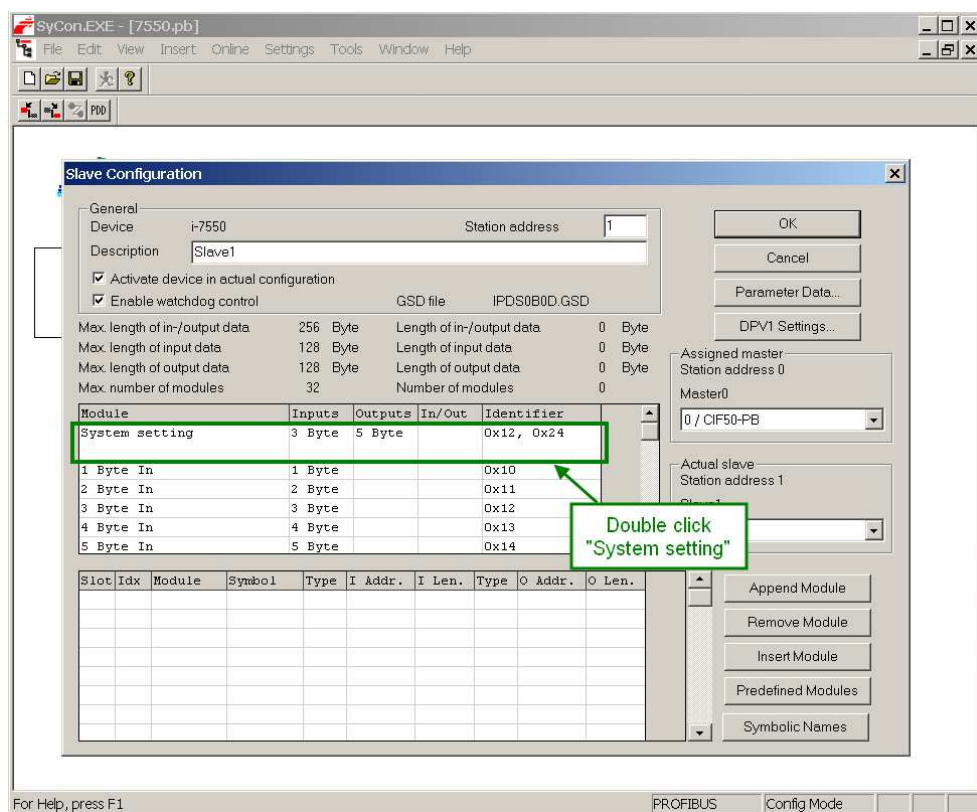

Figure 19: Select “System setting”
- Select “**System setting**” (*Figure 19*). “System setting” always has to be selected otherwise no communication can be established between the converter and the serial network.